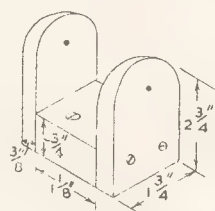
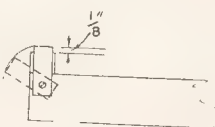

Fig. 3
Fig. 2
FROM plywood or deal board about $\frac{1}{2}$ in. in thickness cut several pieces about 8ins. by 10ins. to comprise a total of $1\frac{1}{2}$ ins. These pieces should be glued and screwed together, and the bottom face planed flat, if deal board is used. At each end on the top glue and screw 8in. pieces of $\frac{1}{2}$ in. square ply or wood, as shown. From Meccano, Trix, Juneero or similar strip metal of about 3in. width, make two 'U' shaped bars, as at (A). Screw these on at the ends of the wood block, allowing about 1in. between the strips and the $\frac{1}{2}$ in. square pieces of wood, so that the strips can be moved, as seen in Fig. 2. Now form a stirrup from wood (Fig. 3), and screw it securely to the centre of the top of the polisher. An ordinary broom handle is drilled through about 1in. from the bottom, and fitted to the stirrup with a thin bolt, a nail, or length of heavy gauge wire. This